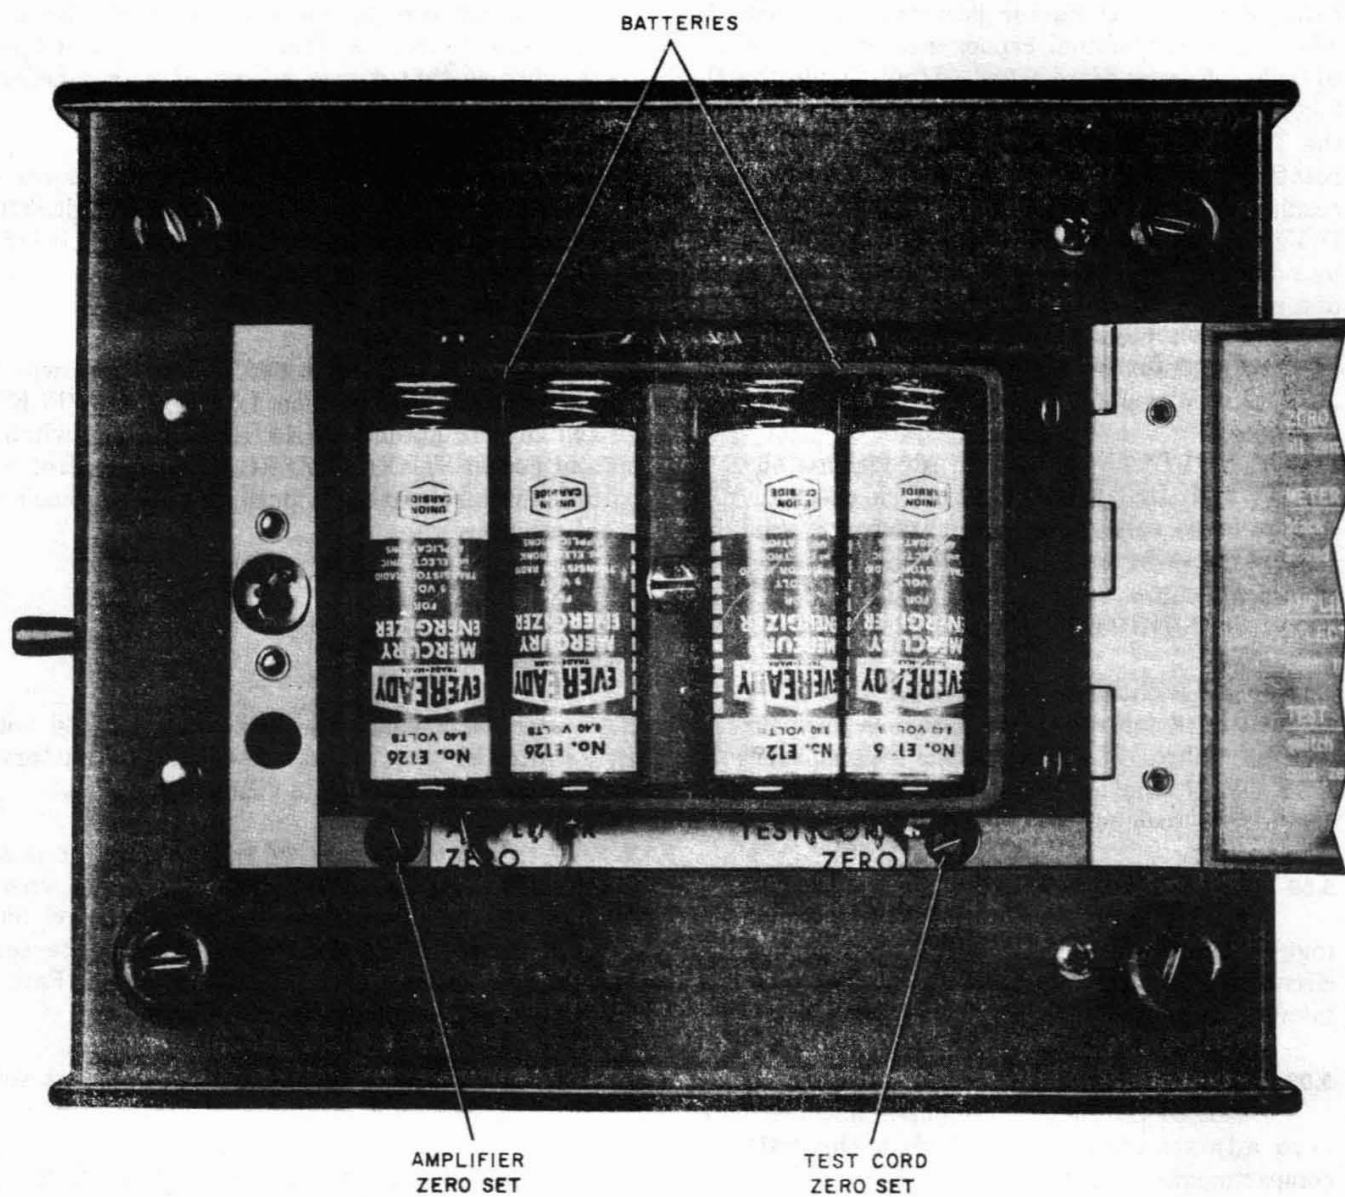
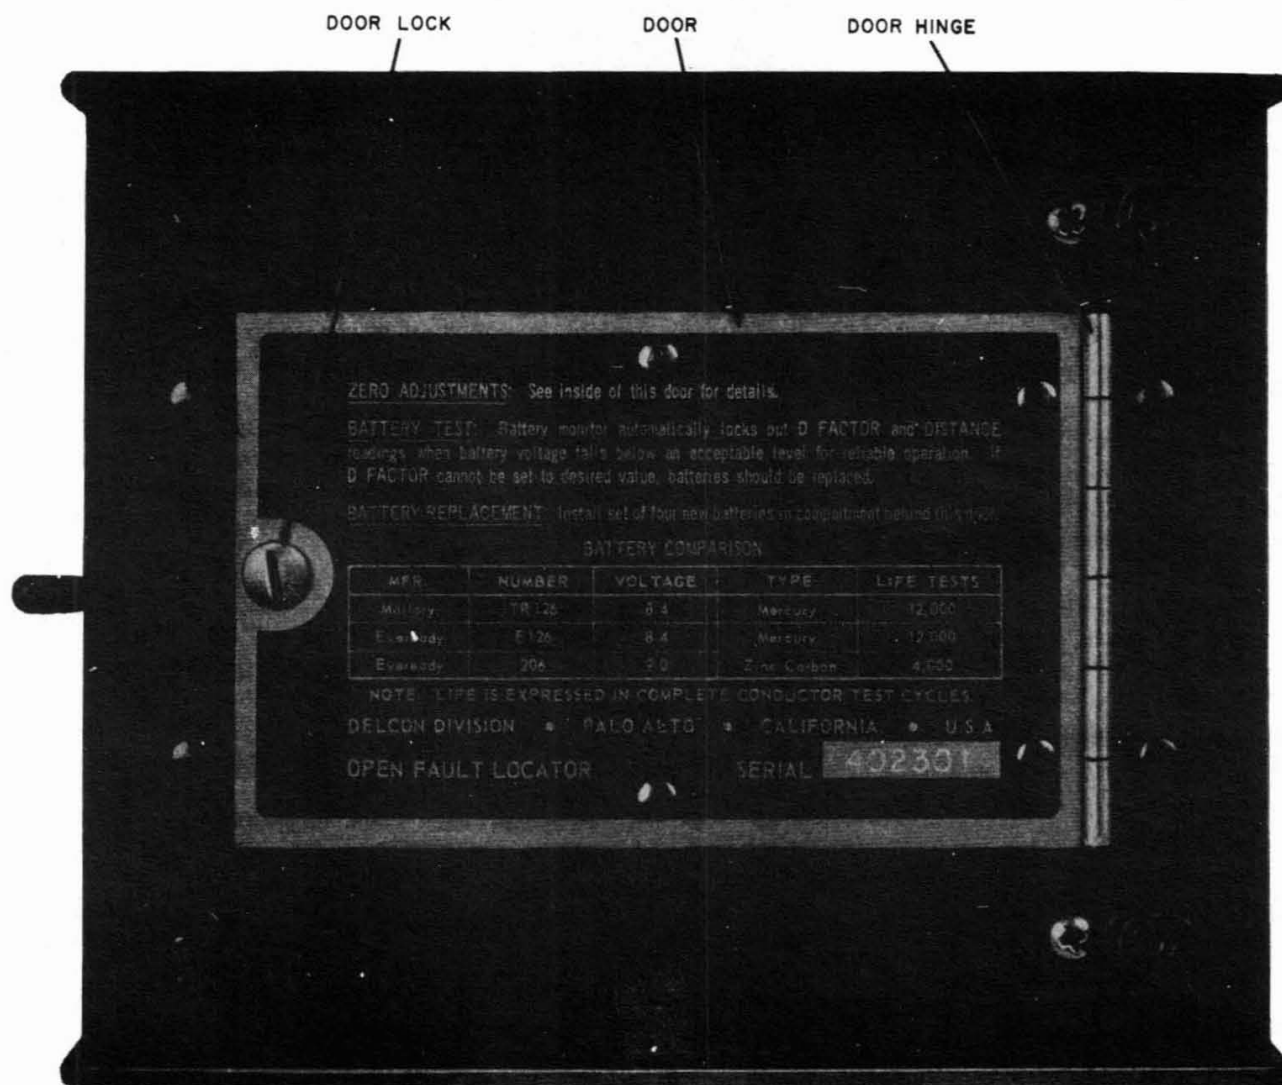

Fig. 5—Access To Zero Adjustments And Batteries
Fig. 6—Battery Compartment Door On Delcon 4910B
- (b) **Amplifier Zero:** Set TEST MODE switch to VOLTAGE position, actuate LINE SELECT switch, and, using a screwdriver adjust AMPLIFIER ZERO SET control in battery compartment (Fig. 5) to produce a meter reading of exactly zero.
- (1) Open the door on the back of the test set (Fig. 6).
- (2) Remove and discard old batteries (Fig. 5) and replace with four fresh batteries of one of the types listed on the back of the test set (Fig. 6).